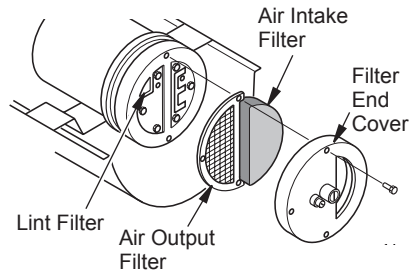

Figure 8 - Air Output, Air Intake, and Lint Filters
2. Remove filter end cover screws using 5/16" nut-driver (see Figure 8).
14. Place fine grade sandpaper (600 grit) on flat surface. Sand rotor lightly in "figure 8" motion four times (see Figure 19).